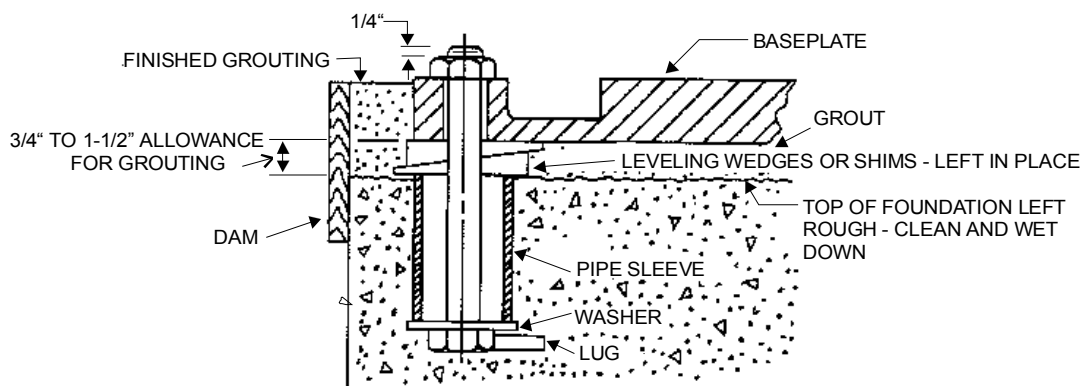

Figure 3. Grouting and Foundation Bolting
The base plate should be supported on either rectangular metal blocks with shims or on metal wedges having a small taper. The support pieces should be placed close to the foundation bolts. Refer to Figure 3, Grouting and Foundation Bolting. Place supports directly under the part of the base plate, which carries the greatest weight. Space the supports closely enough to provide uniform support of the base plate. Adjust the metal supports or wedges until the shaft is level. Check suction and discharge flanges of the pump by means of a level. Make corrections, as necessary, by adjusting the supports or wedges under the base plate.
1. Lightly tighten foundation bolts evenly but not fully. Refer to Figure 3, Grouting and Foundation Bolting.